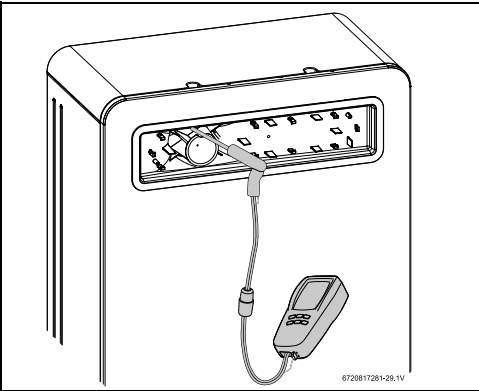

Fig. 49 Measuring port
- ▶ Insert analyzer probe into the measuring port (approx. 1.5" inserted), see fig. 49.